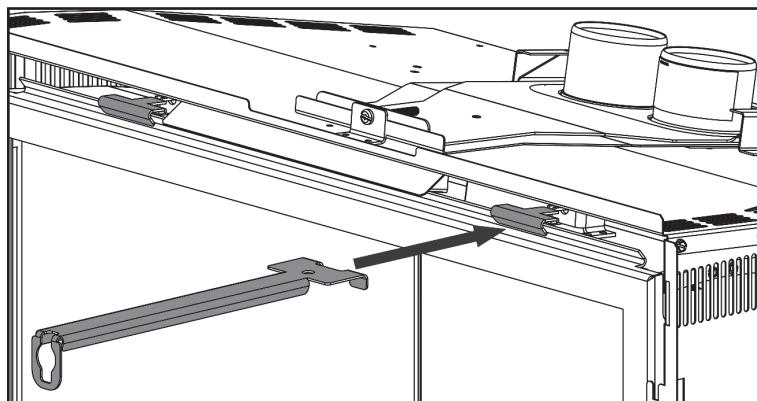

Fig. 3
2. Release the top left and right door latches, located at the top of the door (**Fig. 3**). Tilt forward and lift from slots.